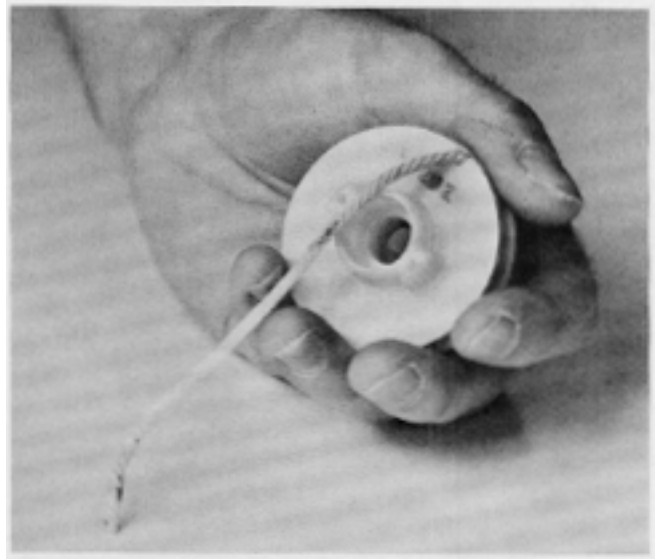

Figure 65
3. Holding the reel with the knotted side toward you, wind the rope on the reel in a clockwise direction. Hook the end of the rope in the slot provided in one of the reel flanges leaving about 15 cm (6 inches) hanging loose. See Fig. 65.